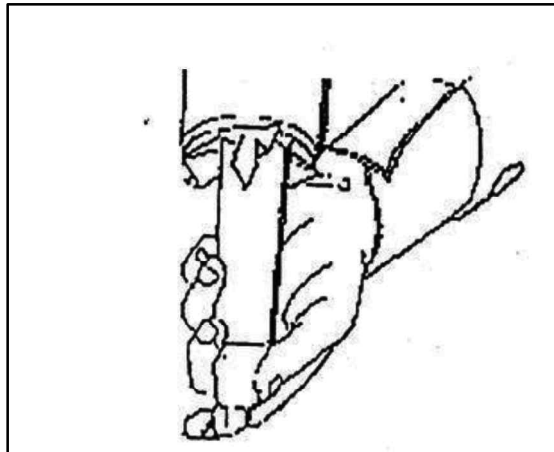

Figure B3.1: Insertion of Water Soluble Tissue paper
3.3.3.2 Stuff the water-soluble paper/ water soluble tissue paper into the Header Nipples at a distance of 60mm(approximately) from the weld end as per attached Figure B3.1